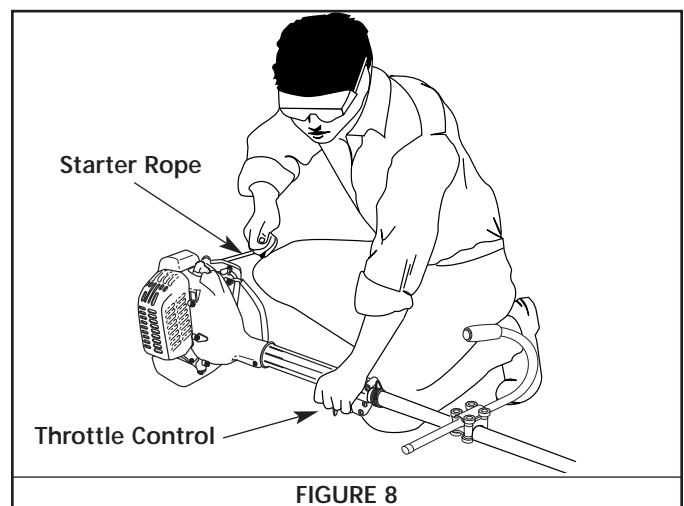

FIGURE 8
7. With the unit in the starting position, pull the starter rope briskly 5 times in the **FULL** choke (A) |←| position. If the engine attempts to run before the fifth pull, proceed to step 8. See Figure 8.
4. With the unit in the starting position, pull the starter rope briskly until the engine starts. See Figure 8.
5. When the engine starts, move the choke lever to the **RUN (C)** |↑| position, and run at full throttle for 30 seconds, and up to one (1) minute in temperatures below 40°F (4°C).